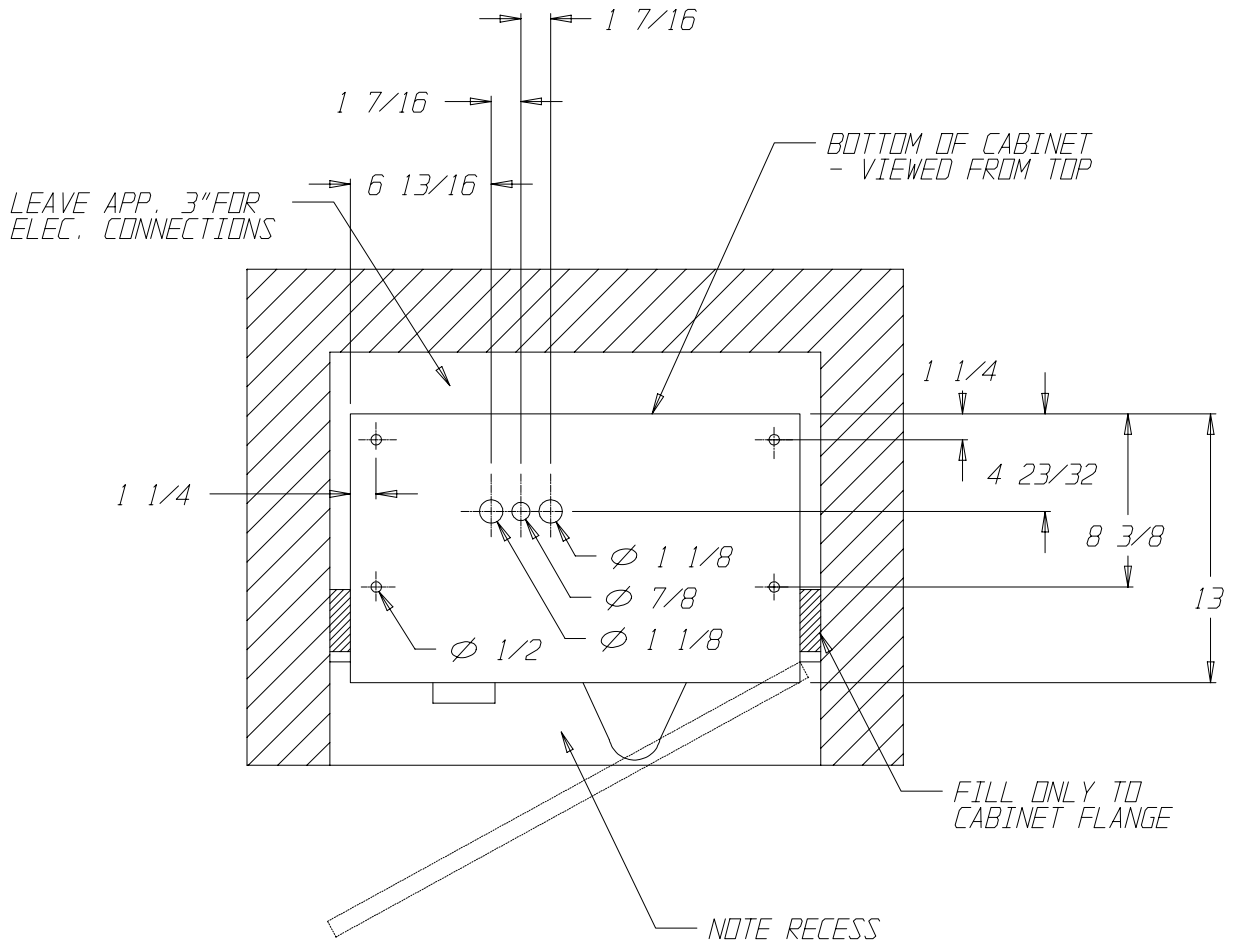
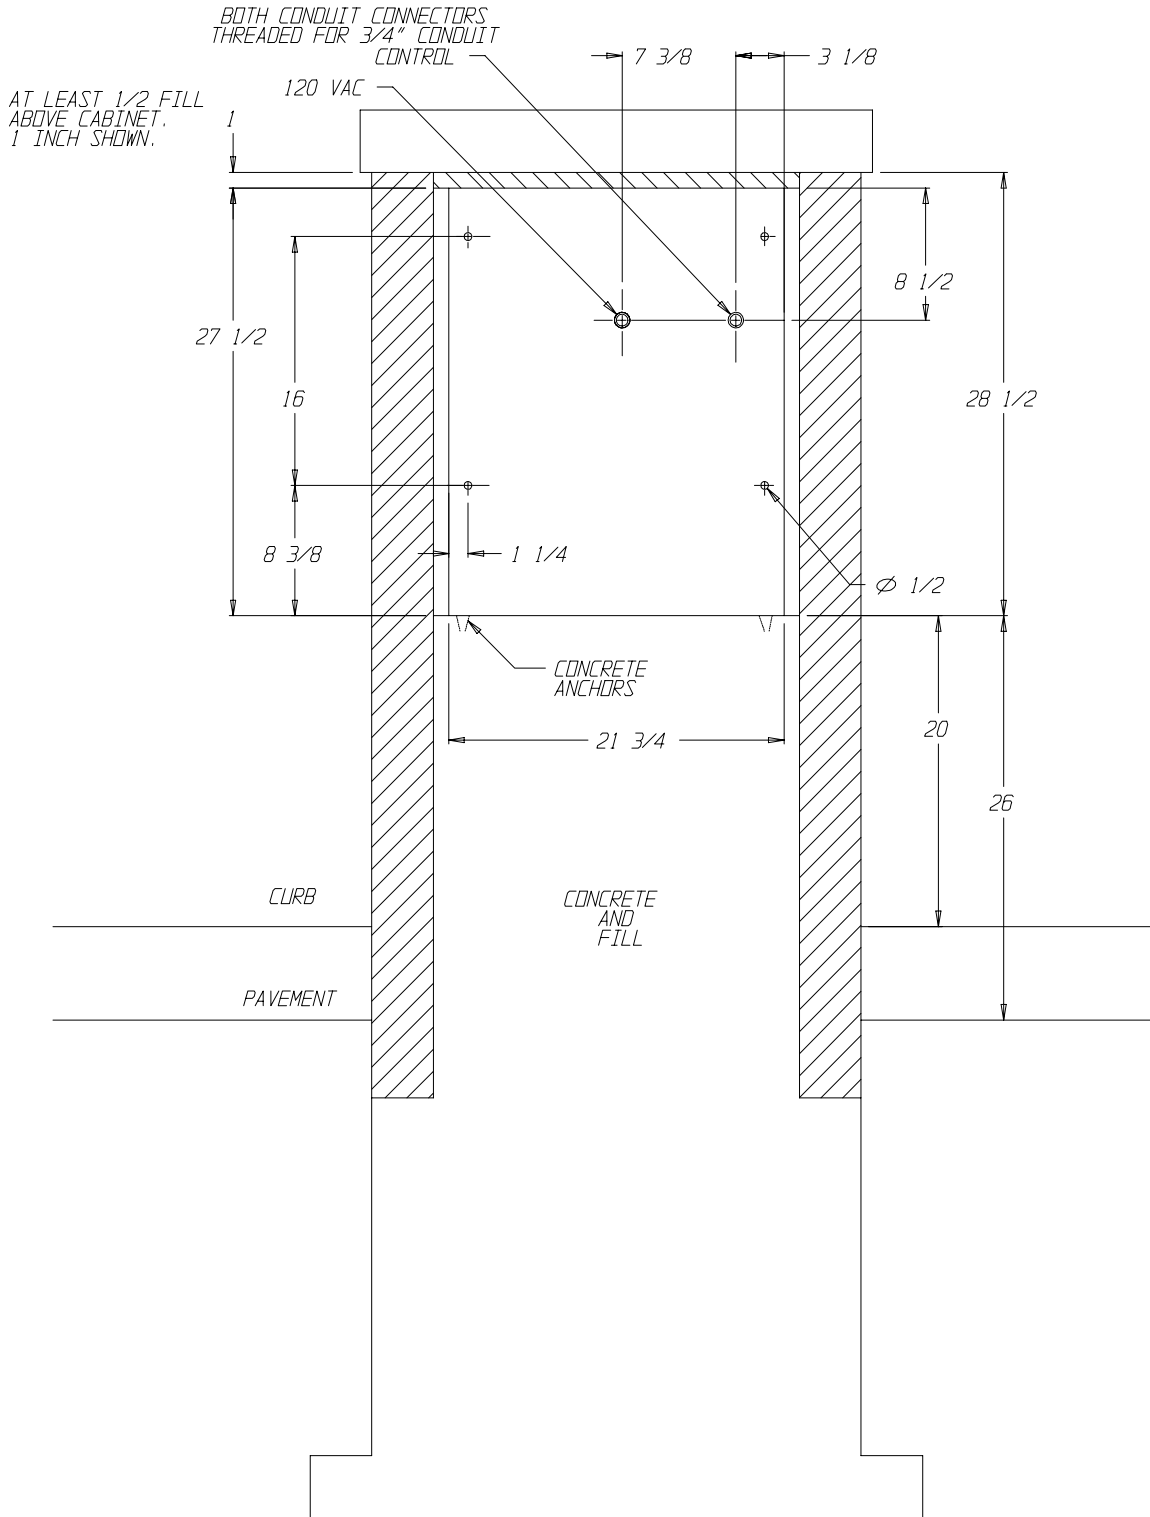

Figure 1
Figure 2
There are no set guidelines for the placement of the ACW-5-P. There is a typical height, from the pavement to the bottom of the cabinet, of approximately 26 (see Figure 2).
- The first method is to construct a small brick or concrete kiosk that will house the ACW-5-P. Figure 1 and Figure 2 give the ACW-5-P mounting hole locations as well as suggested kiosk dimensions. **Have your engineer or contractor recommend construction suitable for strength and stability.** For an illustration of this mounting procedure, refer to APPENDIX G.